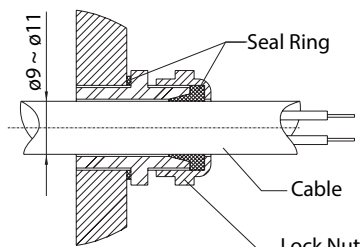

Figure 2
- Refer to Figure 2 for installation of cable directly into unit without the use of conduit.